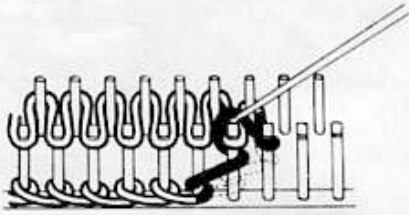
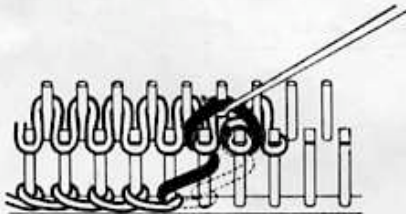

Fig. 13
Fig. 14
I. Starting from the **Right Hand** side, the stitches on the comb-base have to be lifted over the comb-pins with the aid of the Special Hook. The first stitch is to be lifted over **One** comb-pin **Only**. (Fig. 13.) All the following stitches have to be lifted over **Two** comb-pins. (Fig. 14.) The **Last Stitch** is lifted over as shown in Figs. 15 & 15/1, observing that the slip-knot loop is lifted over its own pin.